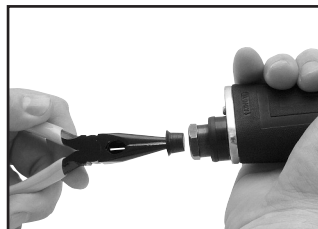

Fig. 2
1. Remove the plastic dust cap using a pair of pliers (See fig. 2).